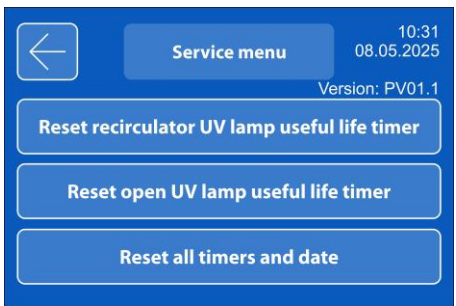

Figure 11. Service menu
- **Service menu** button, accessed by pressing and holding for 8 seconds. In this submenu (figure 11), there are buttons for resetting UV lamp life timers, also activated by pressing and holding for 8 seconds. These actions reset statistics and relevant alarms.